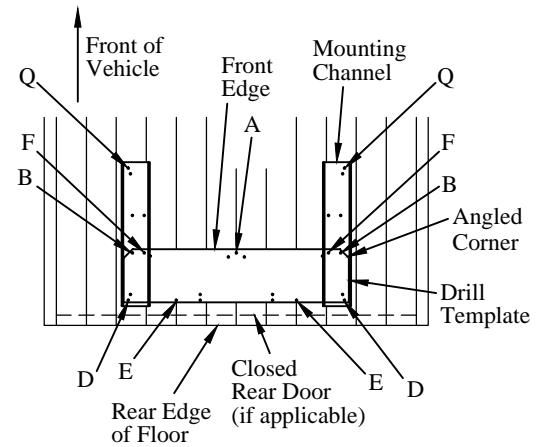

Figure 7: Drilling location (top view).
7. **Position** the mounting channels to be used as a drill template (Figure 7):
4. **Insert** base plate bolts into holes in base plate, down through vehicle floor (Figure 7).